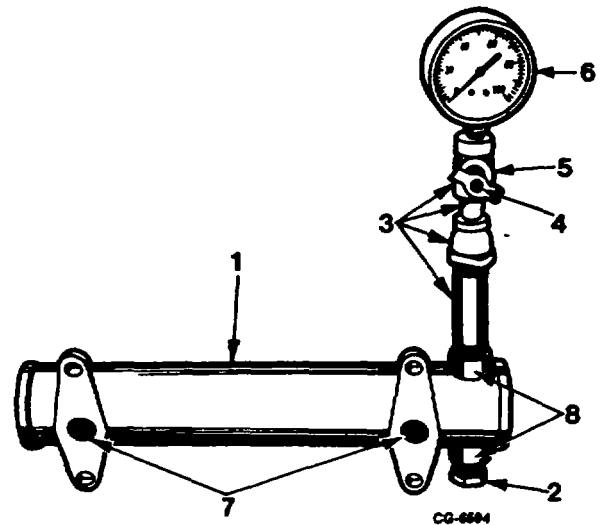

Figure 181. Oil Cooler Leakage
3. Pressure test cooler for leakage as follows (Figure 181):